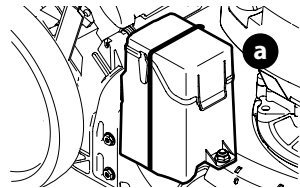

Figure 16
**NOTE:** Remove cable tie (a) from around battery box. Cable tie is used for shipping only (Figure 16).